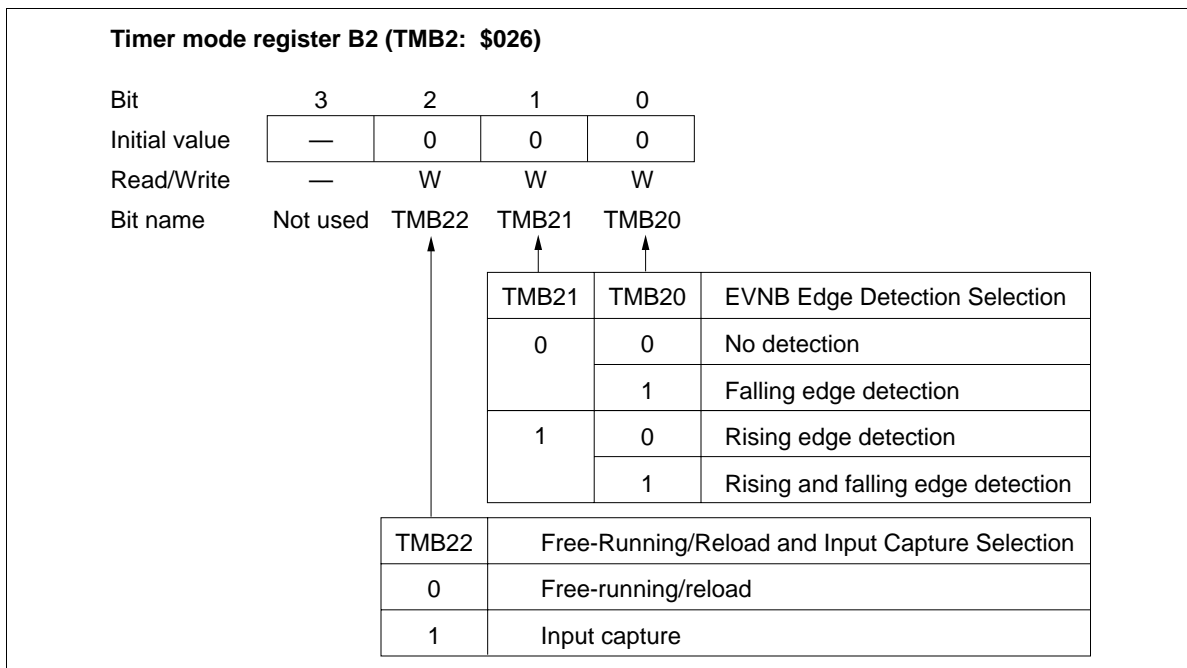

**Figure 40 Timer Mode Register B1 (TMB1)**
- Timer mode register B1 (TMB1: \$009): Four-bit write-only register that selects the free-running/reload timer function, input clock source, and the prescaler division ratio as shown in figure 40. It is reset to \$0 by MCU reset.